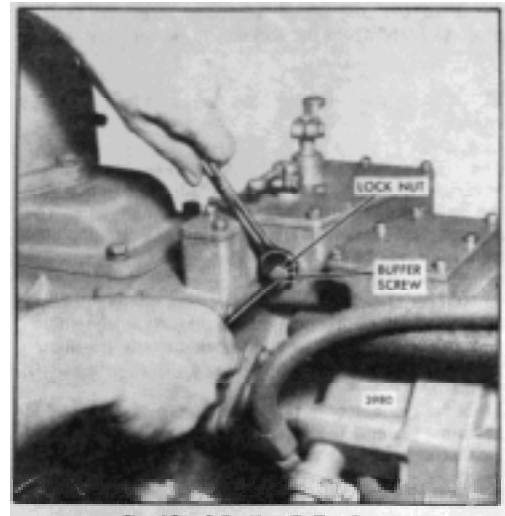

Fig. 15. Adjusting Buffer Screw
2. Back out the buffer screw until it extends approximately 5/8" from the locknut (Fig. 15).
1. With the engine running at normal operating temperature, turn the buffer screw in so it contacts the differential lever as lightly as possible and still eliminates the engine roll (Fig. 15).